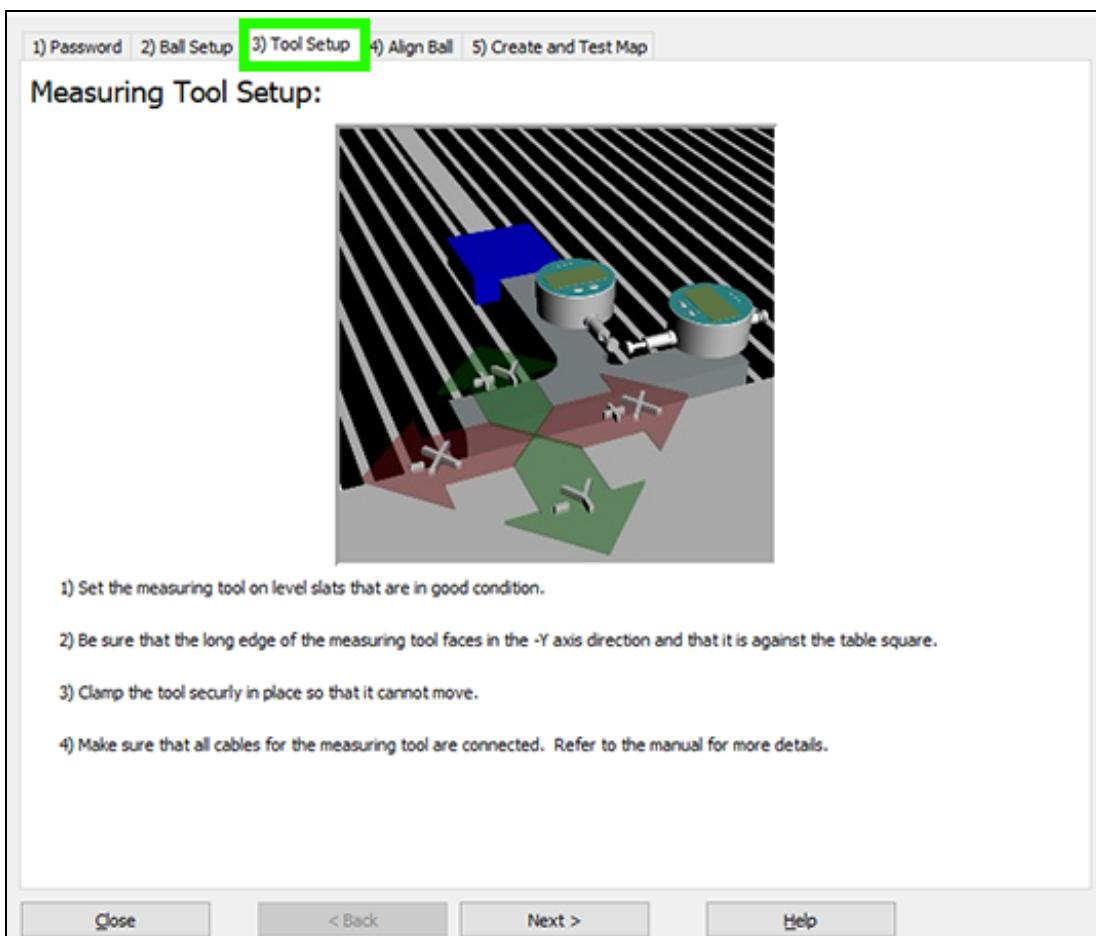

Figure 38
6. Select **Next** to proceed to the **3) Tool Setup** tab (Figure 38).